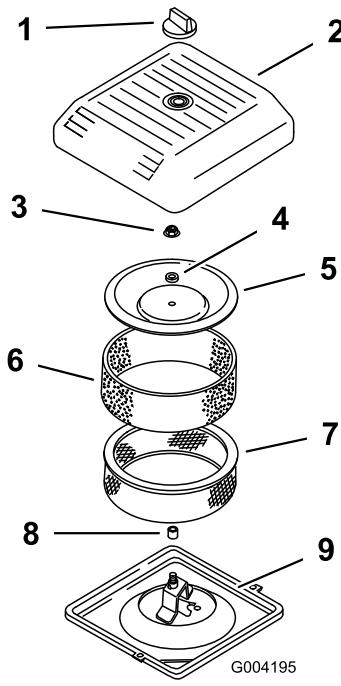

Figure 15
2. Unscrew the knob and remove the air cleaner cover (Figure 15).
3. Carefully slide the foam pre-filter off of the paper element (Figure 15).
4. Unscrew the cover nut and remove the cover, spacer and paper filter (Figure 15).
2. Place the air cleaner assembly onto the air cleaner base (Figure 15).
3. Install the cover, spacer and secure it with the cover nut (Figure 15). Torque the nut to 95 in-lb (10.7 N-m).
4. Install the air cleaner cover and secure with the knob (Figure 15).